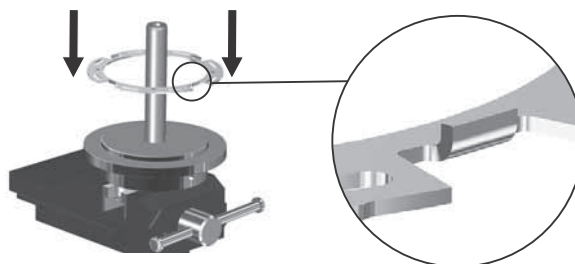

Fig. 31 Neck-ring retainer (65) placed in service tool with the tabs pointing upwards
3. Place the neck-ring retainer (65) on top of the disc with the driving dogs upwards. See fig. 31.